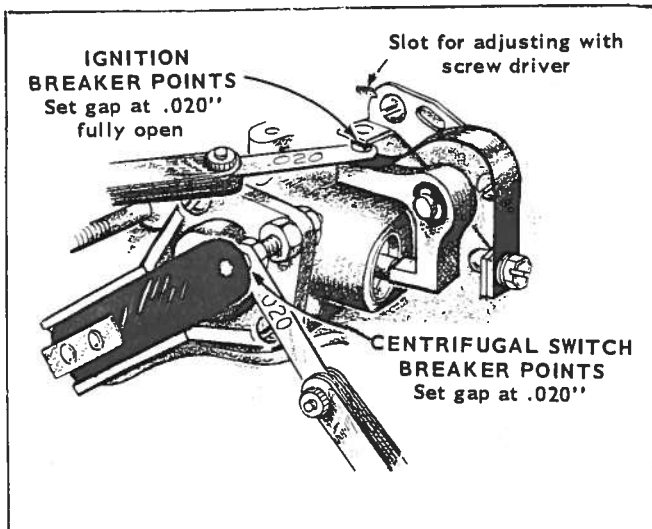

FIG. 19
If a false start occurs with a starter motor equipped set, make sure the centrifugal switch (Fig. 19) closes during speed build-up.
- (1) The centrifugal switch, Fig. 19 is wide open when engine is stopped. Loosen and move stationary contact to correct gap.
- (2) Ignition breaker points. Fig. 19 must be correctly gapped. Crank engine to fully open breaker points (1/4 turn after top center). Loosen and move stationary contact to correct the gap at full separation. Retighten contact and re-check gap.